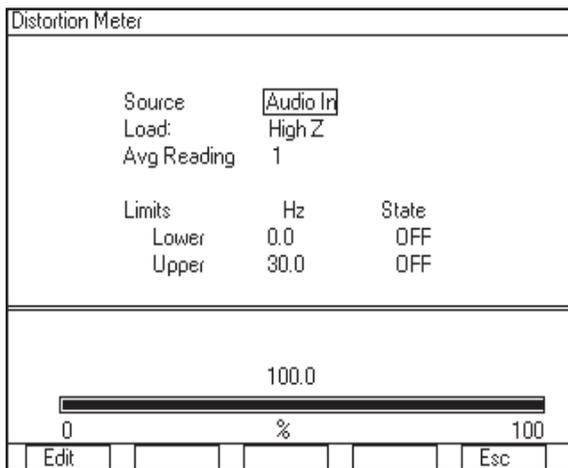

Figure 17 - Distortion Meter screen
5. Move the cursor to the DIST meter. Press the Zoom softkey and the screen shown in Figure 17 should appear. Make sure that the Source is Audio In and the Avg Reading is 1. Press the Esc softkey to return.